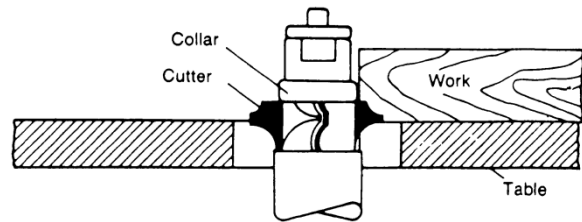

Figure 18
2. Using the collar above the cutter (Figure 18), the cut is not affected by slight variations in the stock's thickness. However, the cut is not visible during the operation. Another advantage is accidental lifting of the work piece will not gouge the work piece. Simply correct the mistake by repeating the operation.